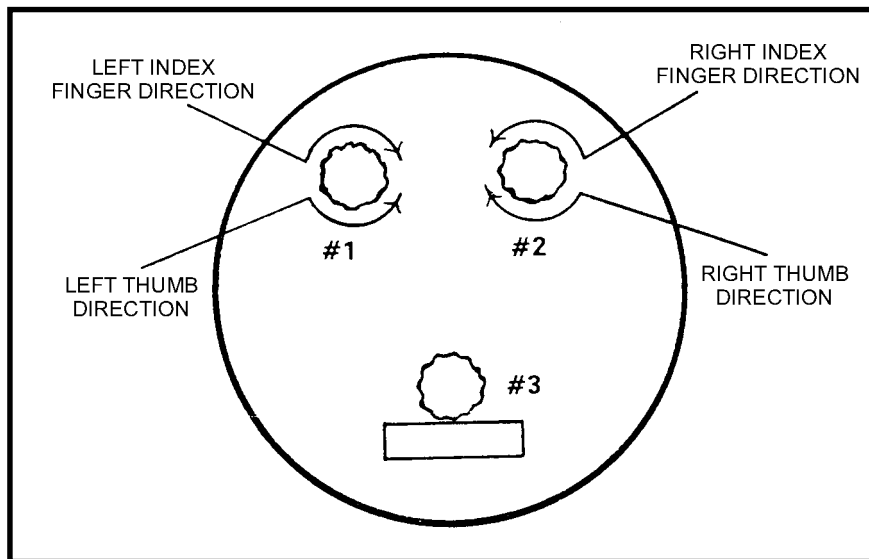

Figure 2-6. Leveling screws.
d. Loosen the leveling screws to expose sufficient threads (3/8 to 1/2 inch) on the three screws to permit the instrument to be leveled. Number the leveling screws clockwise, 1, 2, and 3 (Figure 2-6). Now place the tubular level vial over the notation pad. Grasp leveling screw number 1 between the thumb and forefinger of the right hand, and grasp leveling screw number 2 between the thumb and forefinger of the left hand. Turn the screws so that the thumbs move toward or away from each other. Using these two leveling screws, center the bubble. The bubble moves in the same direction as the left thumb.